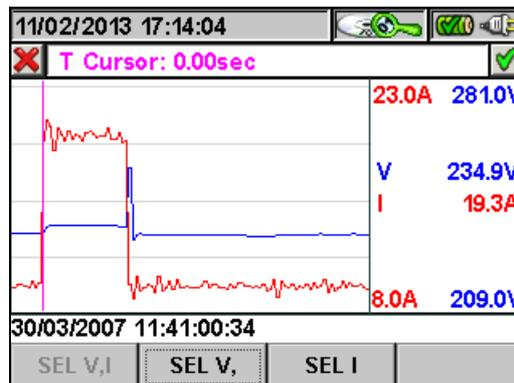

Fig. 166: Inrush currents graph
- The **F3** key (or the **GRAPH** item on the display) accesses the page which shows the graph of the selected Inrush Current (see Fig. 166)